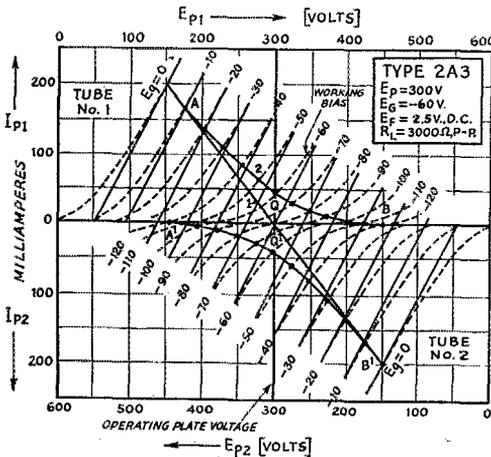

Fig. 2
The actual push-pull characteristics are shown in Fig. 2. In reality, they consist of two sets of single-tube curves with the plate-voltage bases back-to-back and the operating plate-voltage ordinates coinciding. Thus the plate voltage on one tube increases to the right of the operating plate voltage while the plate voltage of the second tube decreases, as in push-pull operation. The characteristic curves of a single tube are shown as broken lines while the composite push-pull curves are continuous lines which represent the algebraic sum of the currents drawn by both tubes for various values of bias voltage on each side of the operating bias. Therefore, the characteristic curves for push-pull operation are not fixed as the curves are for a single tube. Instead, a new set of curves is required for each operating condition. The push-pull curves shown in Fig. 2 are for a plate voltage of 300 and a grid bias of -60 . The power output of the push-pull stage is found by multiplying the load resistance by the squared sum of the effective currents drawn by both tubes or
The value for I_e , as indicated, is the sum of both peak currents (peak-to-peak), divided by 2 to change it to peak current, and multiplied by 0.707 to change it to effective value. The load resistance presented to each tube is 750 ohms (slope of load line in Fig. 2) and is one-fourth of the indicated plate-to-plate resistance.
b) Since the composite curve represents the currents of both tubes, the currents must be added algebraically. The last set of readings are negative in sign, since they represent the current of the second tube whose current readings would be below the plate-voltage coordinate (see Fig. 2). Thus the effective composite currents for the zero-bias characteristic are $187 - 14 = 173$
e) The same procedure is used to draw composite curves for all the bias lines (see Fig. 2). However, for purposes of clarity, they were omitted from Fig. 2. These composite bias lines are used to determine distortion content and the average plate current of the push-pull stage. In the installment to follow a simpler method of drawing the composite load line and finding the individual load line and average plate current will be presented. However, the logic of the simplified method will be more apparent if this method is understood.
The 750-ohm load line of Fig. 2 is linear and represents the push-pull characteristics of both tubes. However, taking each tube singly, the actual load line is far from linear because of the dependence upon the other tube. When the other tube is at cut-off or near cut-off, the impedance
points where both tubes are conducting are reached, this value drops and the actual impedance presented to a single tube drops away from the composite load line as shown by line *AB* in Fig. 2. The points through which this line is drawn are located on the same voltage ordinates as the points of intersection of the push-pull load line and the composite characteristic curves, but are located at the intersection point of the ordinate with the single-tube characteristic curves (dashed lines). Actually the points represent the plate current contributed by the individual tubes at the same bias and plate-voltage points. Thus point No. 1 represents the plate current of both tubes with -50 volts of bias and a plate voltage of 275, while point No. 2 directly above represents the plate current contributed by an individual tube at the same grid bias and plate voltage.